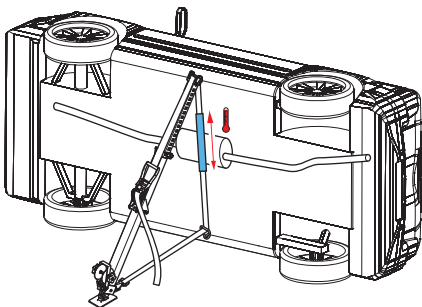

Fig. 14
- Put the cover between the V-strut and possible sharp or hot objects. Refer to Fig. 14.
- Make sure that the angle of the V-strut is between 45° and 60°. Refer to Fig. 14.
- Attach the upper hook of the tension belt as low as possible to the vehicle. Refer to Fig. 14.